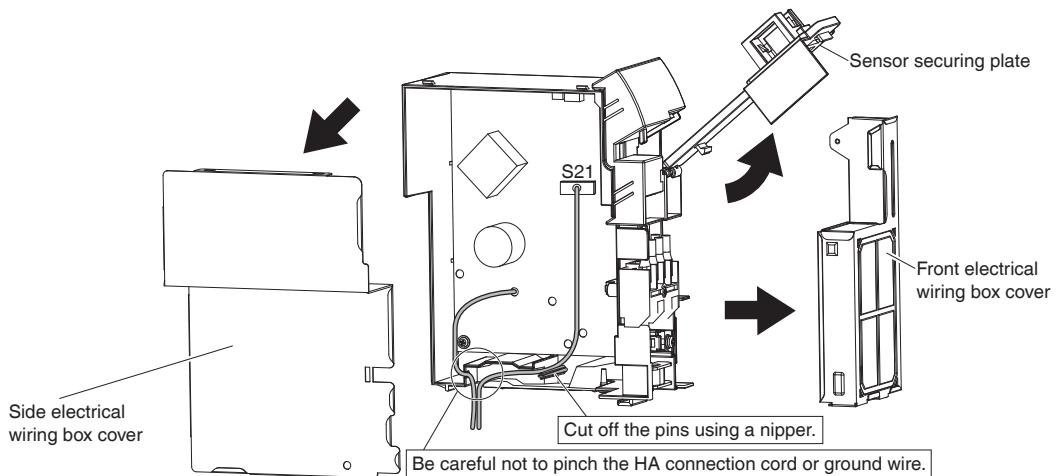

Fig. 3
- 2) Open up the sensor securing plate. (See **Fig. 3**)
- 3) Remove the front electrical wiring box cover (4 tabs). (See **Fig. 3**)
- 7) Remove the side electrical wiring box cover (7 tabs). (See **Fig. 3**)
- 8) Cut off the pins using a nipper. (See **Fig. 3**)
- 9) Wire and connect the HA connection cord to the S21 connector. (See **Fig. 3**)